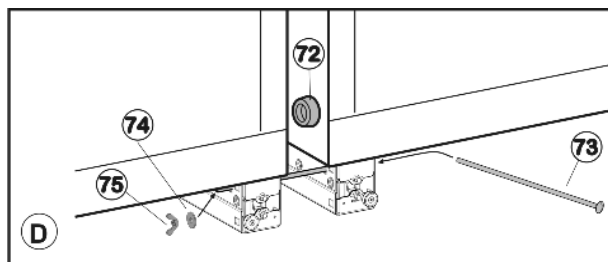

Fig. 64
- Insert long carriage bolt Fig. 64 (73).
- Push washer Fig. 64 (74) and nut Fig. 64 (75) onto the screw. Tighten nut until the spacer Fig. 64 (72) is touching the opposite side wall.